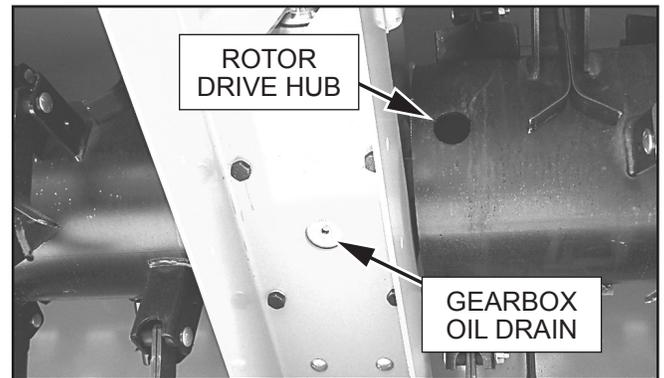

Figure 27. Gearbox Oil Drain Location
1. Change gearbox oil. Refill with SAE 85W90 gear oil. Capacity: 3-1/2 U.S. quarts (110 oz.). See Figure 27.